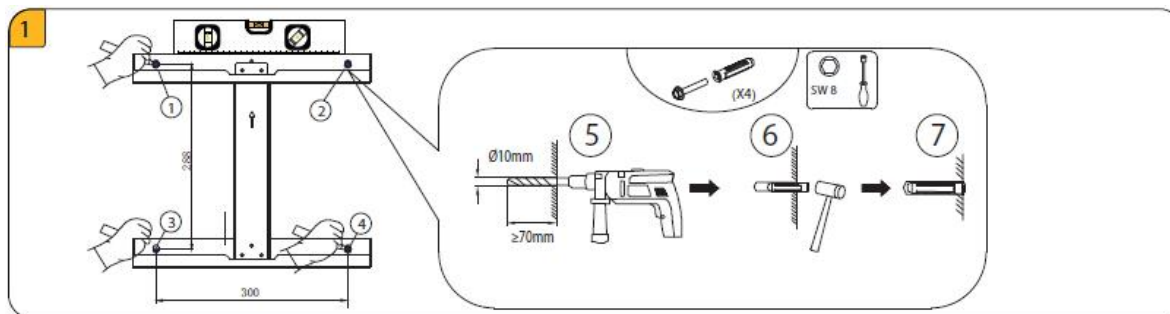

Figure 5-6 Inverter bracket fixation diagram
5. Ensure that the wall bracket is placed horizontally using a spirit level before securing it. Secure the wall bracket to the wall using the provided screws (tool: Socket wrench SW8, torque: 6 Nm). Refer to Figure 5-6 below.